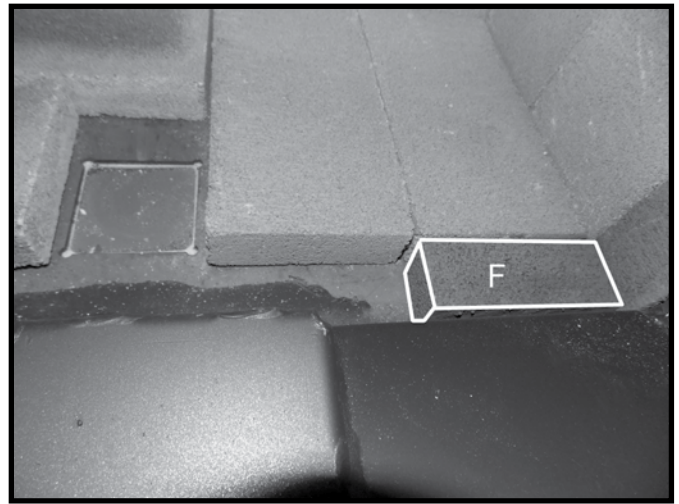
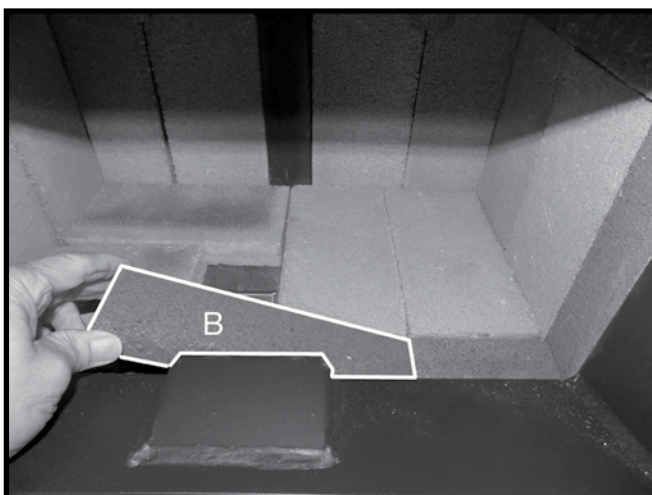
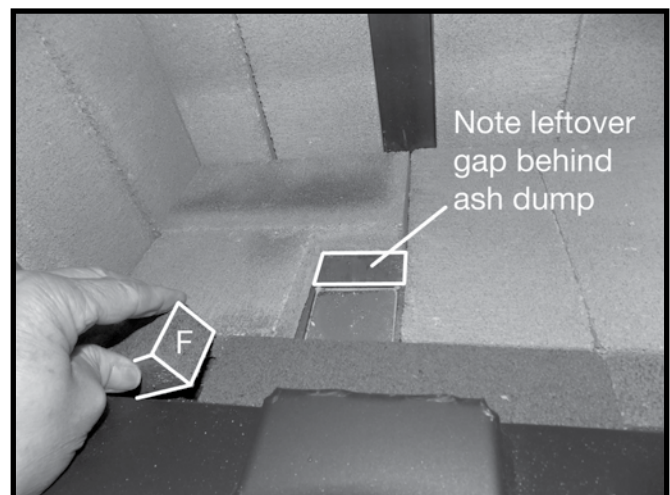

Figure 26: Short, narrow brick installed in front row.
Figure 27: Long narrow center brick in front row.
Figure 28: Final short narrow brick in front row.
11. Place a short narrow "F" brick against the front right side of the floor (Figure 26) followed by a longer "B" brick in the center of the front row (Figure 27). Finish with the last "F" brick placed against the left side front row (Figure 28). Note: There will be a leftover gap behind the ash dump.